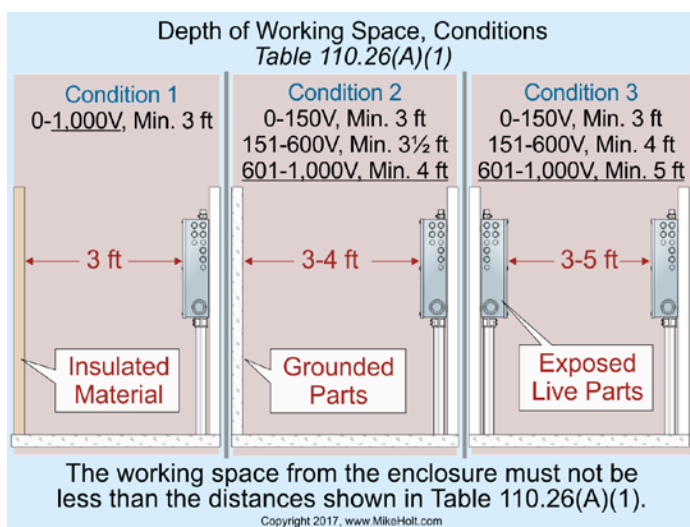

Figure 110-29
(1) Depth of Working Space. The working space, which is measured from the enclosure front, isn't permitted to be less than the distances contained in Table 110.26(A)(1). *Figure 110-29*